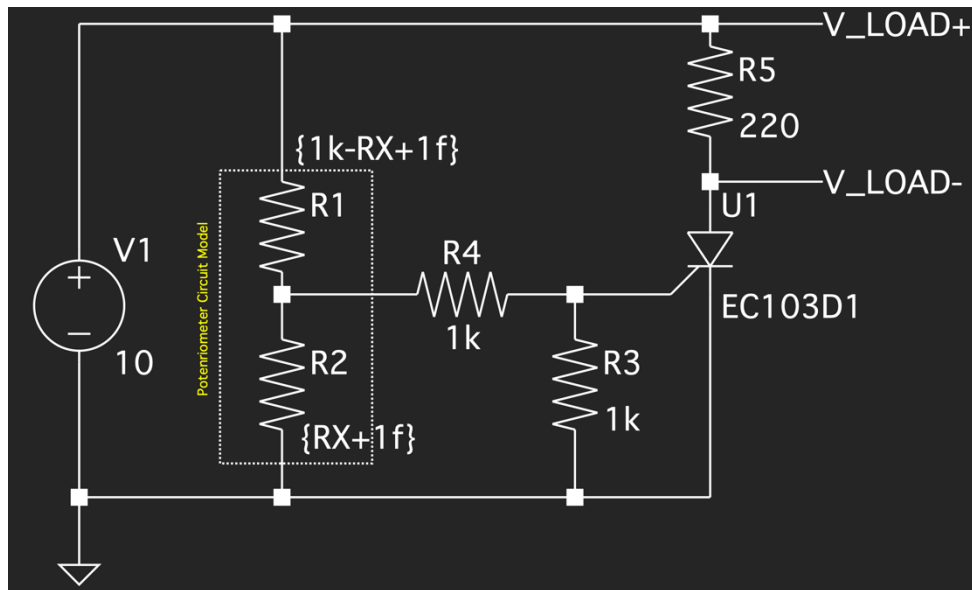

Fig. 1.5: Experimental Circuit for Procedure A
1. Construct the experimental circuit shown in Fig. 1.5. Label the terminals across the resistor R5 as V_LOAD+ and V_LOAD-. Also, take note that the values of R1 and R2 are parameters $\{1k-RX-1f\}$ and $\{RX+1f\}$, respectively. With this arrangement, R1 and R2 simulates the sweeping action of a $1k\Omega$ potentiometer.